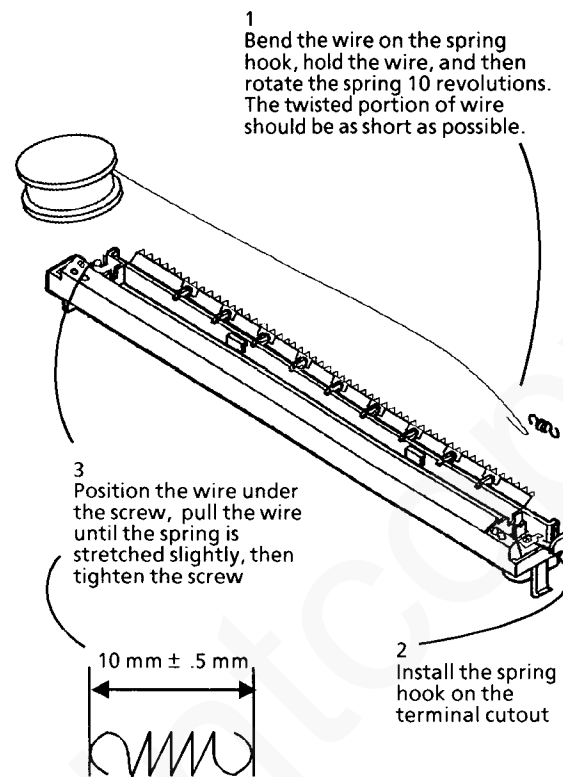

Figure 2. Installing the Corotron Wire
4. Install the corotron wire (Figure 2).